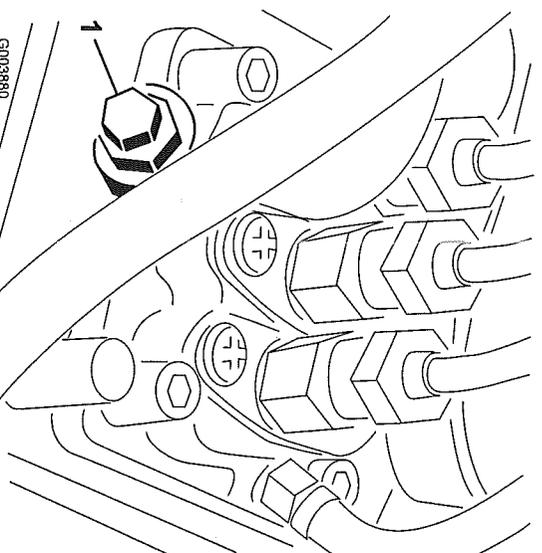

Figure 22
- 3. Open the air bleed screw on the fuel injection pump (Figure 22).